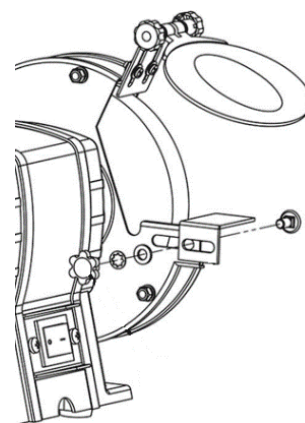

Fig. 3
- Align the workpiece holder (9) as illustrated in Fig. 3.
- Fix it onto the grinding wheel guard (6) with the screws and knobs provided.
- The gap between the grinding wheel (8) and the workpiece holder should not larger than 2mm.